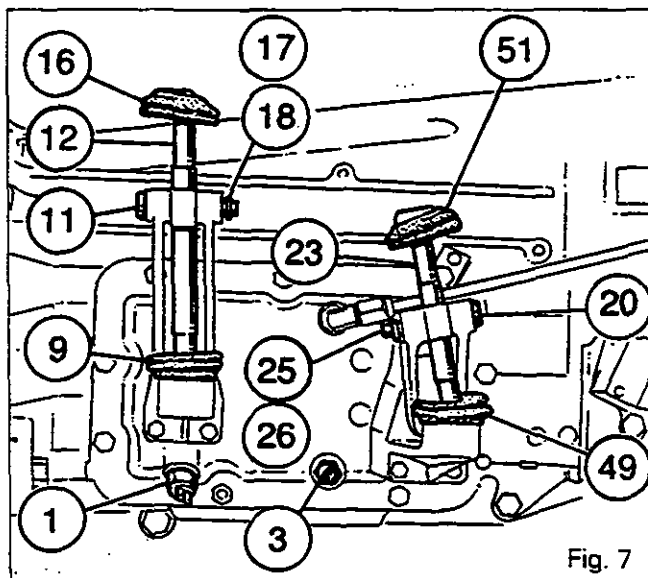
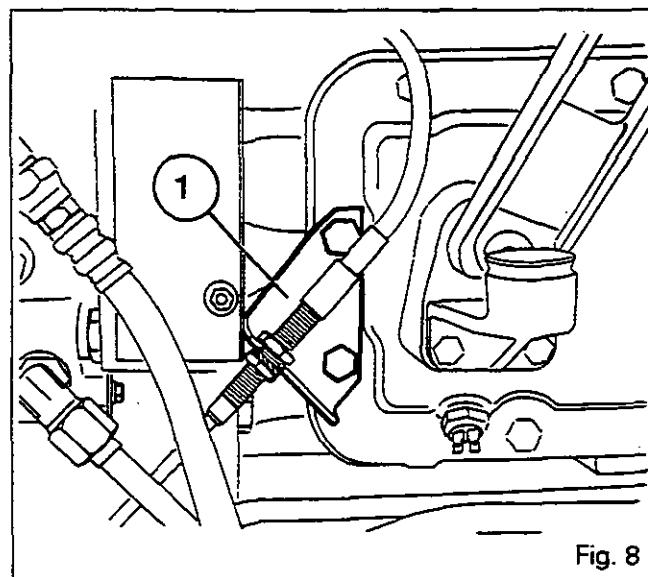
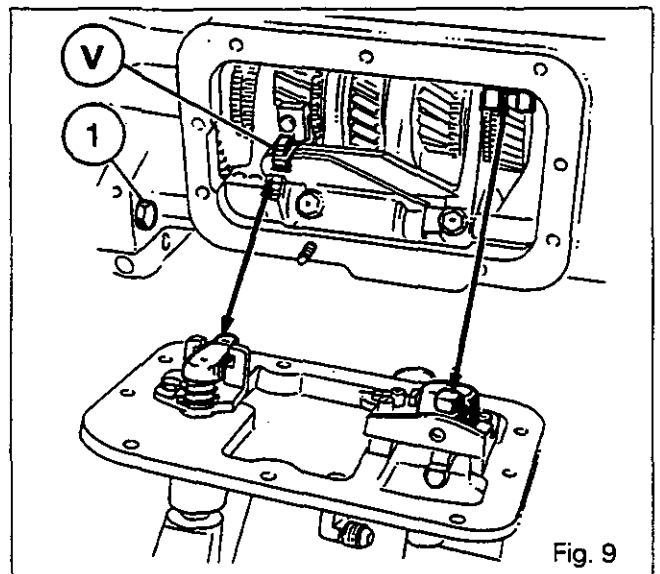

Fig. 7
Fig. 8
Fig. 9
9. Disconnect the wiring harnesses from the switch (1) and temperature gauge (3) (if fitted) (Fig. 7).
11. Remove the nut (57) and bolts (33) and mark the position of the earth wire lug (24). On creeper-type gearboxes, remove the control cable support bracket (1) (Fig. 8).
12. Remove the cover (56).
33. Clean the mating face on the cover (56).
34. Set the reversing selector, and the 1st, 2nd, 3rd and 4th gear forks to the neutral position. Move the lock V towards the opening of the selector cover. Check that bolt (1) is present (see Fig. 9).
38. Fit the earth wire lug (24), bolts (33) and nut (57). Tighten to a torque of 50 - 70 Nm.
Note : For gearboxes equipped with creeper gears, fit the cable support (1) (Fig. 8).
40. Reconnect the wiring harnesses to the Hare/Tortoise switch (1) and on the temperature probe (3).
41. Refit the reversing lever (23) and gear lever (12).
42. Reinstall pins (11) and (20). Reinstall the washers and pins. Position the dust covers (Fig. 7).